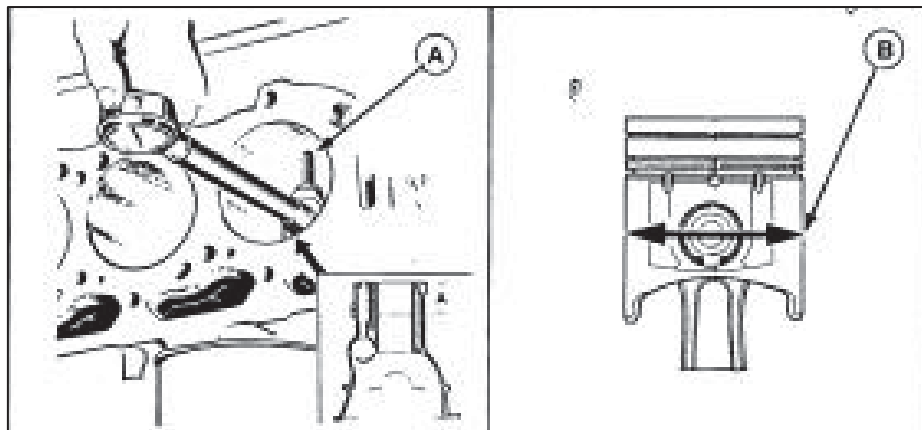

Fig. C2.13
2. Check the following dimensions in the piston as shown in fig. C2.13